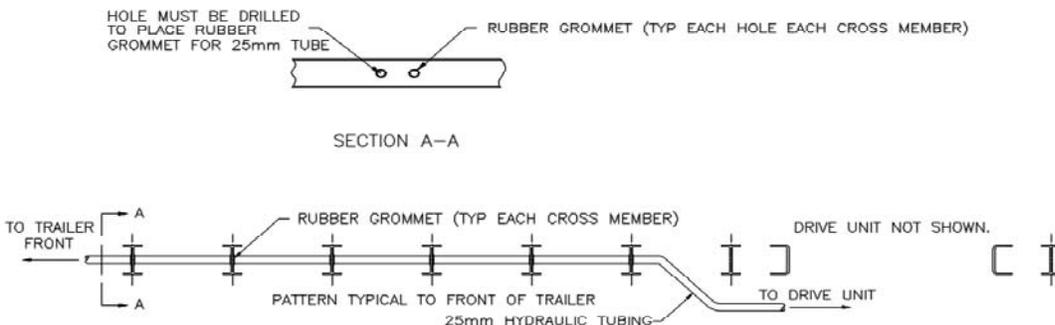

FIGURE 7
- 1) Routing the hydraulic tubing through the cross-members (Figure 7).